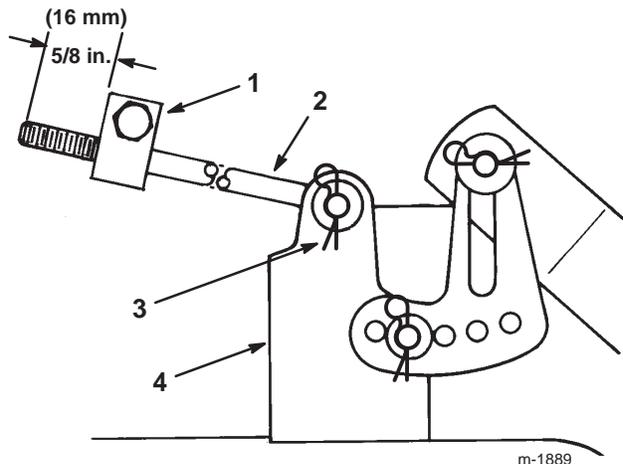

Figure 50
- Measure the length of the rod extending out of the front of the adjusting block on the sides of the chassis (Fig. 50).
Note: If the rod length is not 5/8 in. (16 mm), remove the hairpin cotter and washer from the end of the rod (Fig. 50) and turn the rod until you obtain the 5/8 in. (16 mm) dimension.